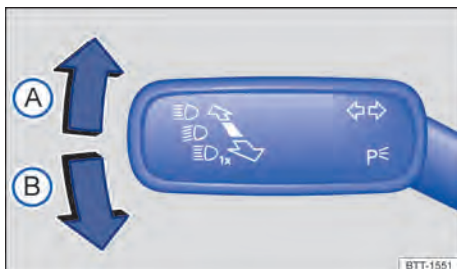

Fig. 77 On the left-hand side of the steering column: direction indicator and high beam lever.
2. Move the lever from the centre position to the desired position → Fig. 77.